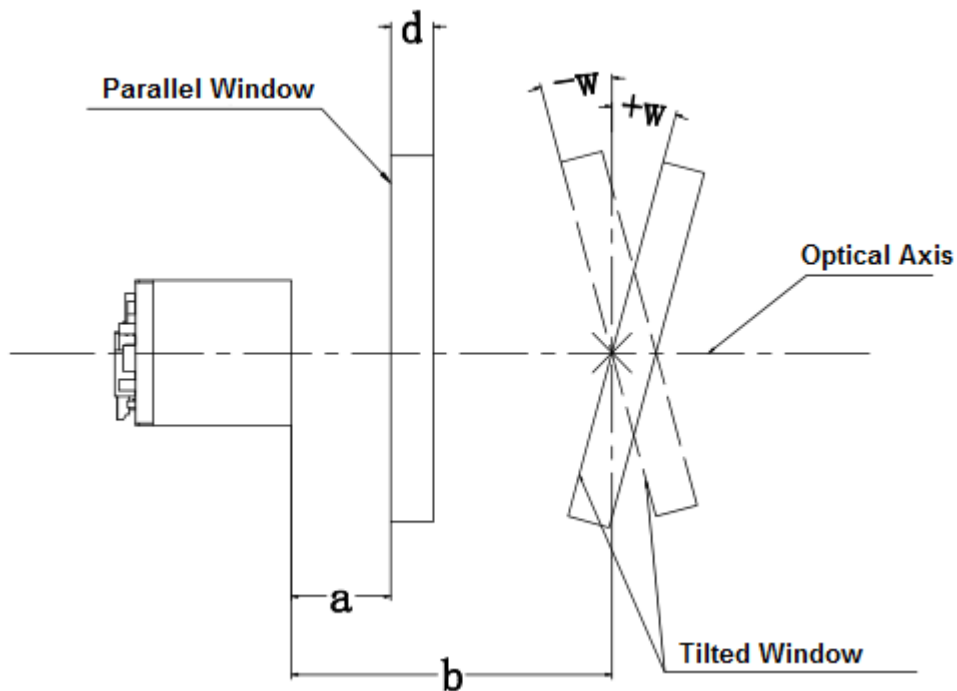

Figure 2-2
- **Parallel window** – Primary option for imager engines. The following window distance requirements should be satisfied: The maximum distance is measured from the front of the engine housing to the furthest surface of the window. In order to reach better reading performance, the distance from the front of the engine housing to the nearest surface of the window should not exceed **a** ( $a=0.5\text{mm}$ ) and the distance from the front of the engine housing to the furthest surface of the window should not exceed **a+d** ( $a=0.5\text{mm}$ ,  $d=2\text{mm}$ ), as shown in **Figure 2-2**.